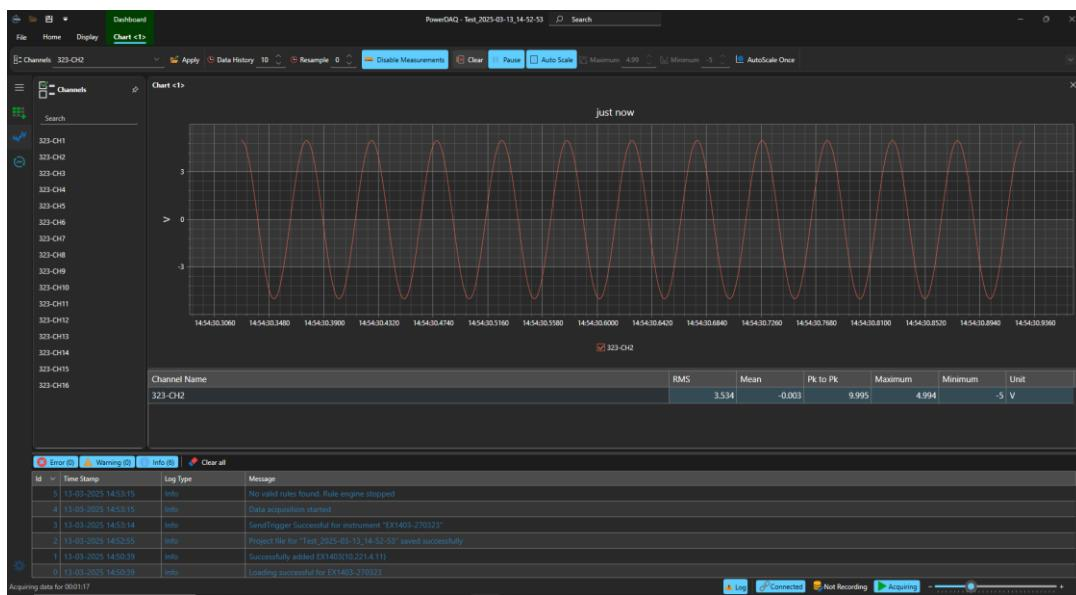

Figure 28. Table with Data Acquisition Values
5. A table below the chart displays the following real-time values. Refer to the Figure 28.